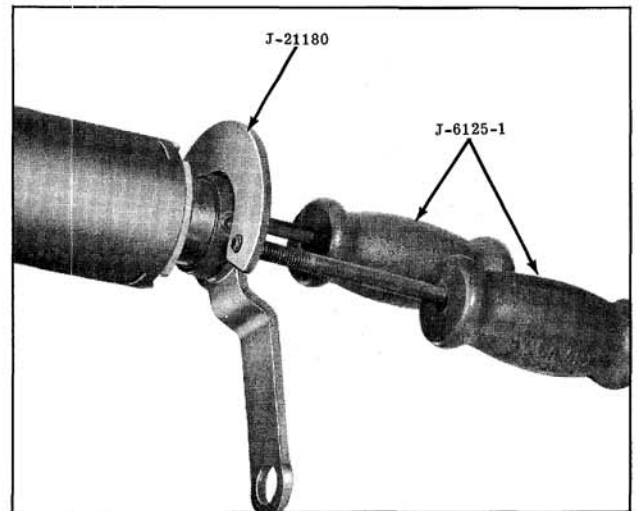

Fig. 8-107 Removing Shift Tube
4. Remove the shift tube from the lower end of the mast jacket using Tool J-21180 and two Slide Hammers J-6125. (Fig. 8-107) On 33 through 38 series, the shift tube can be removed by tapping the shift lever with a plastic hammer.